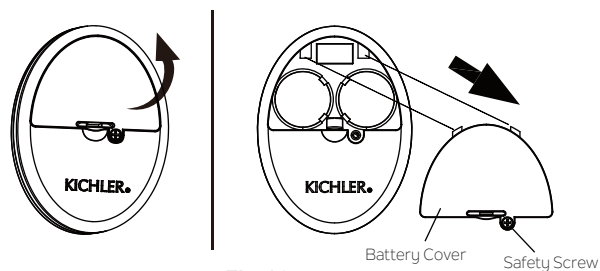

Fig. 30
Step 1. Remove the safety screw and the battery cover from the back of the transmitter. Retain safety screw. (Fig. 30)